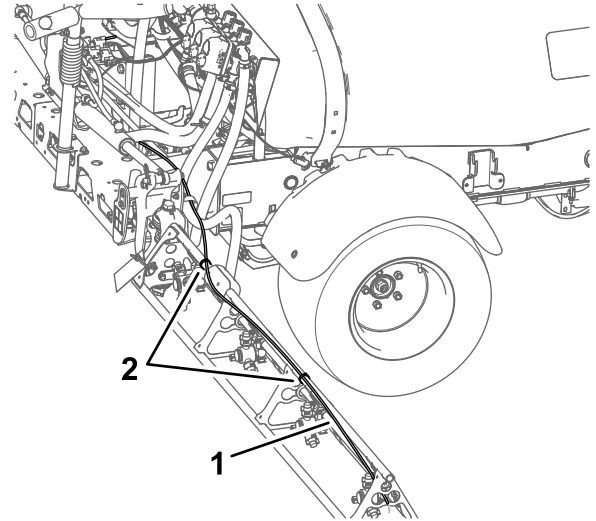

Figure 26
1. Remove the cable ties that secure the liquid and air tubes of the foam marker kit to the outer-spray section (Figure 26).